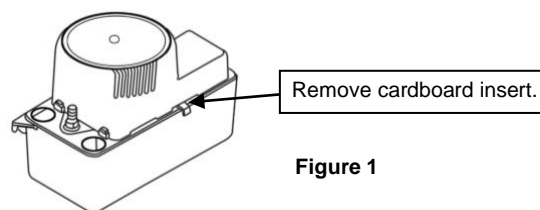

Figure 1
2. Carefully unpack the pump. Remove the cardboard packing from the motor cover air slots. Carefully slide the packing away from the pump. This packing is used to prevent switch movement during shipment (Figure 1).